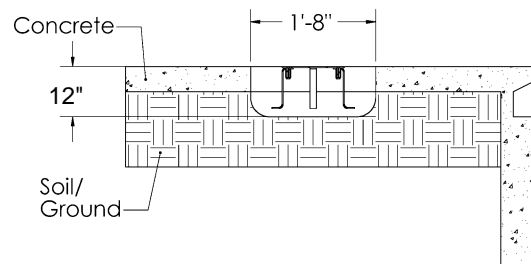

Figure 3
Step 2: Using a jackhammer or concrete saw, knock out a 20" diameter hole in the concrete at the point of the second mark. The hole depth should be at least 12", as shown in **Figure 3**.